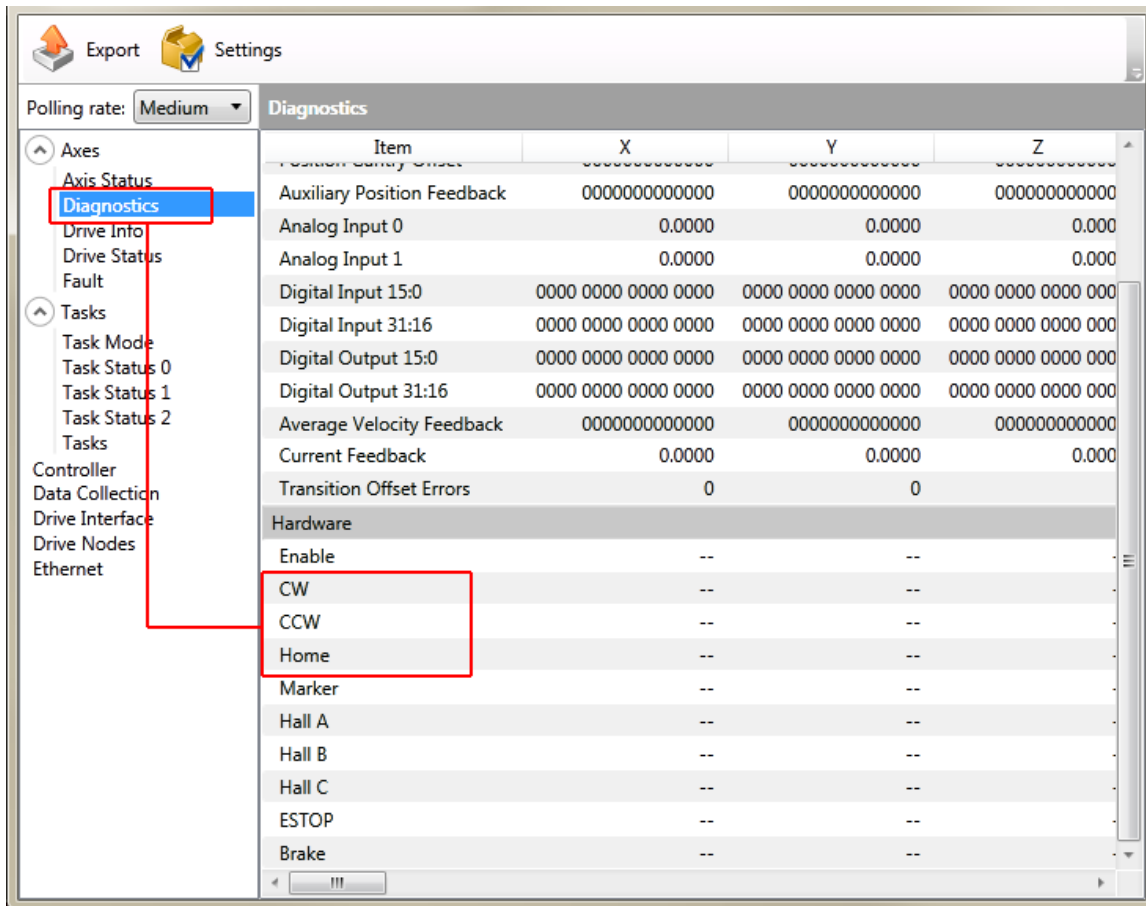

Figure 2-22: End of Travel and Home Limit Input Diagnostic Display
End of Travel (EOT) limits are required to define the end of the physical travel on linear axes. Positive or clockwise motion is stopped by the clockwise (CW) end of travel limit input. Negative or counterclockwise motion is stopped by the counterclockwise (CCW) end of travel limit input. The Home Limit switch can be parameter configured for use during the home cycle, however, the CW or CCW EOT limit is typically used instead. All of the end-of-travel limit inputs accept 0-5 VDC level signals. Limit directions are relative to the encoder polarity in the diagnostics display (refer to Figure 2-22).
If the EOT limits are reversed, you will be able to move further into a limit but be unable to move out. To correct this, swap the connections to the CW and CCW inputs at the Feedback connector or swap the CW and CCW limit functionality in the software using the EndOfTravelLimitSetup parameter. View the logic level of the EOT limit inputs in the Diagnostics display (shown in Figure 2-22).